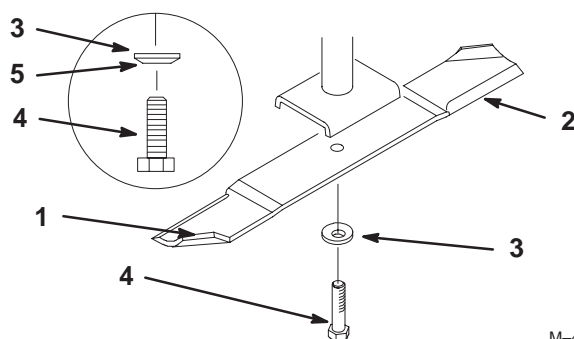
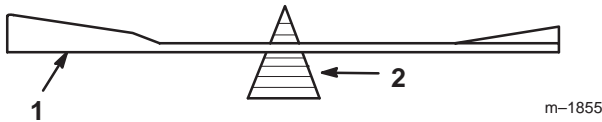

Figure 36
Figure 38
Hold the blade end using a rag or thickly-padded glove. Remove the blade bolt, spring disk, and blade from the spindle shaft (Fig. 36).
2. Check the balance of the blade by putting it on a blade balancer (Fig. 38). If the blade stays in a horizontal position, the blade is balanced and can be used. If the blade is not balanced, file some metal off of the end of the sail area only (Fig. 36). Repeat this procedure until the blade is balanced.
1. Install the blade onto the spindle shaft (Fig. 36).
2. Install the spring disk and blade bolt. The spring disk cone must be installed toward the bolt head (Fig. 36).